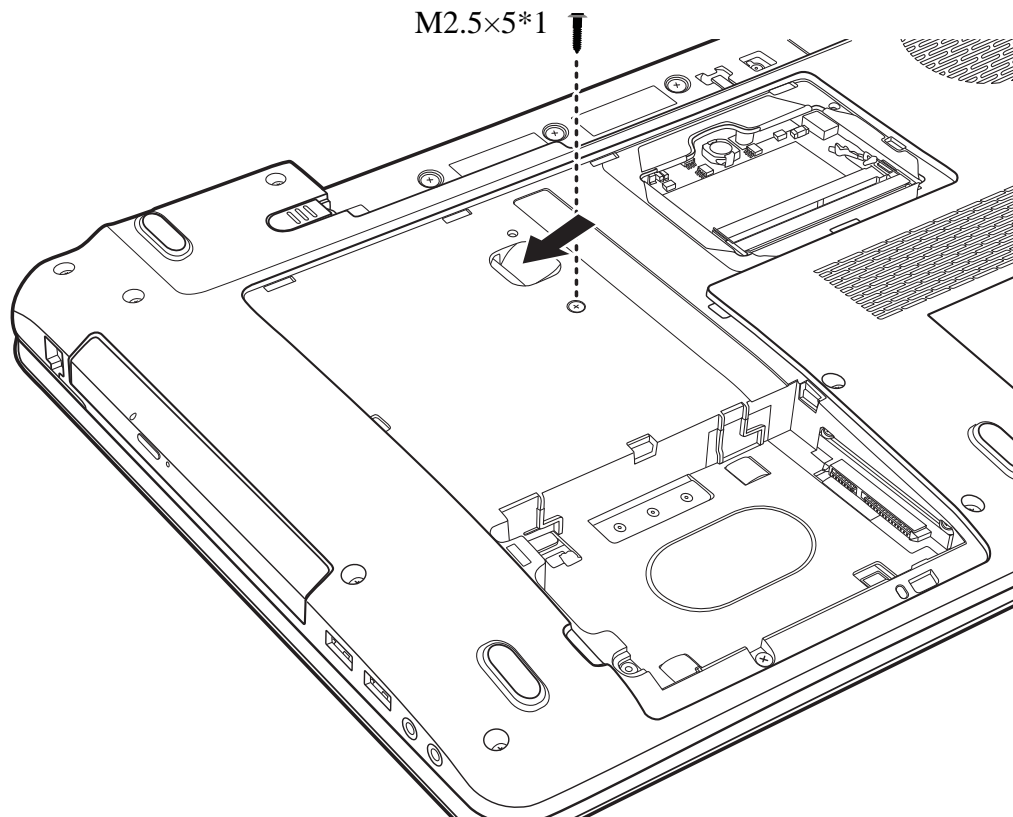

Figure 4.8 Removing the ODD
Remove the ODD (optical disc drive) according to the following procedures and Figure 4.8.
3. Push the ODD outward as indicated in Figure 4.8 and then remove the ODD.